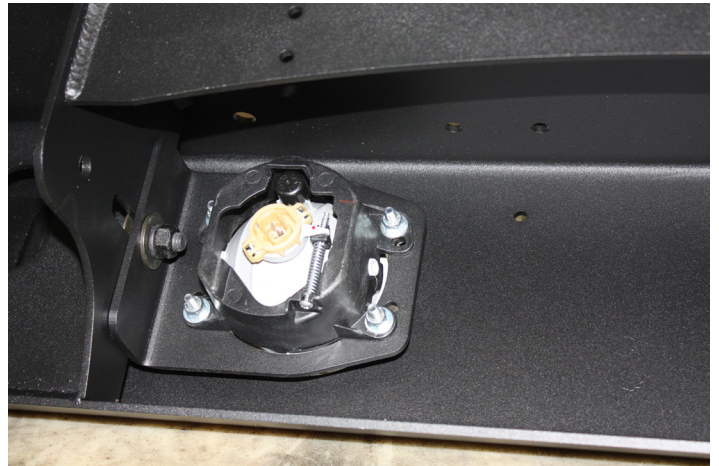

Figure 6
6. Install the fog lamps in the Fog Lamp Brackets using 1/4-20 x 1" capscrews, flat washers and lock nuts. Make sure the fog lamp vents are on top. These fasteners should only be snug. Do not over tighten. Figure 6.
7. Install the fog lamps and Brackets. Use 7/16 x 1-1/2" capscrews, flat washers, lock washers and nuts. Adjust lamps and tighten. Figure 6.